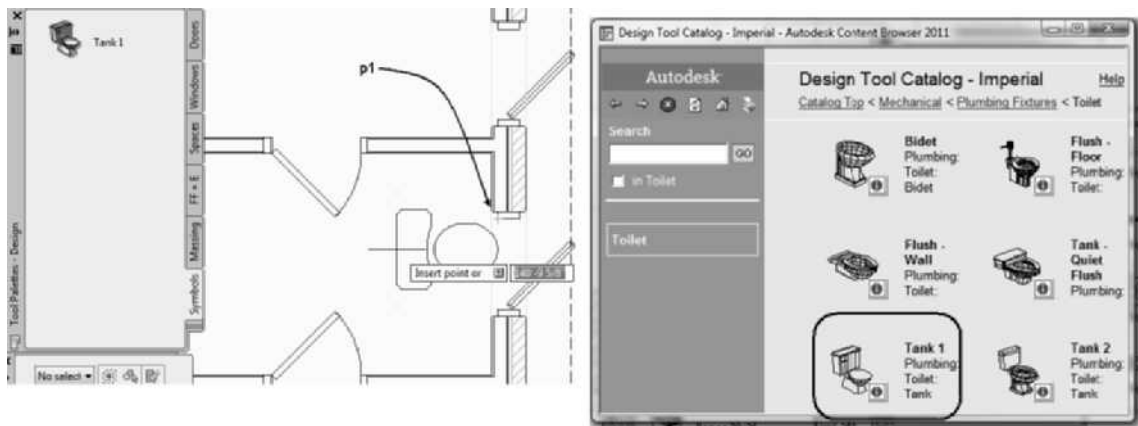

FIGURE 10.38 Default rotation of the symbol when placing Tank 1
8. Select the Home tab. Choose Content Browser from the Tools flyout menu in the Build panel. Open **Design Tool Catalog—Imperial [Design Tool Catalog—Metric]** and expand the **Mechanical > Plumbing Fixtures\Toilet [Bathroom > Toilet]** folder as shown in Figure 10.38.
10. Click the **Tank 1 [3D Toilet – Modern A]** tool and move the cursor to the drawing area to determine the default symbol rotation as shown in Figure 10.38.
12. Move the cursor over the workspace and select point **p1** at the edge of the window shown in Figure 10.38 using the **Endpoint** object snap mode to locate the toilet. Press ESC to end insertion.